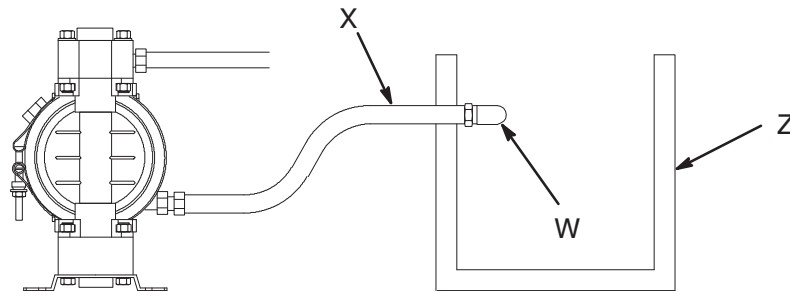

Fig. 6
Diaphragm failure will cause the fluid being pumped to exhaust with the air. Place an appropriate container at the end of the air exhaust line to catch the fluid. See Fig. 6.
1. Remove the muffler (W) from the pump air exhaust port.
2. Install an electrically conductive air exhaust hose (X) and connect the muffler to the other end of the hose. The minimum size for the air exhaust hose is 3/8 in. (10 mm) ID. If a hose longer than 15 ft (4.57 m) is required, use a larger diameter hose. Avoid sharp bends or kinks in the hose.
3. Place a container (Z) at the end of the air exhaust line to catch fluid in case a diaphragm ruptures. See Fig. 6.